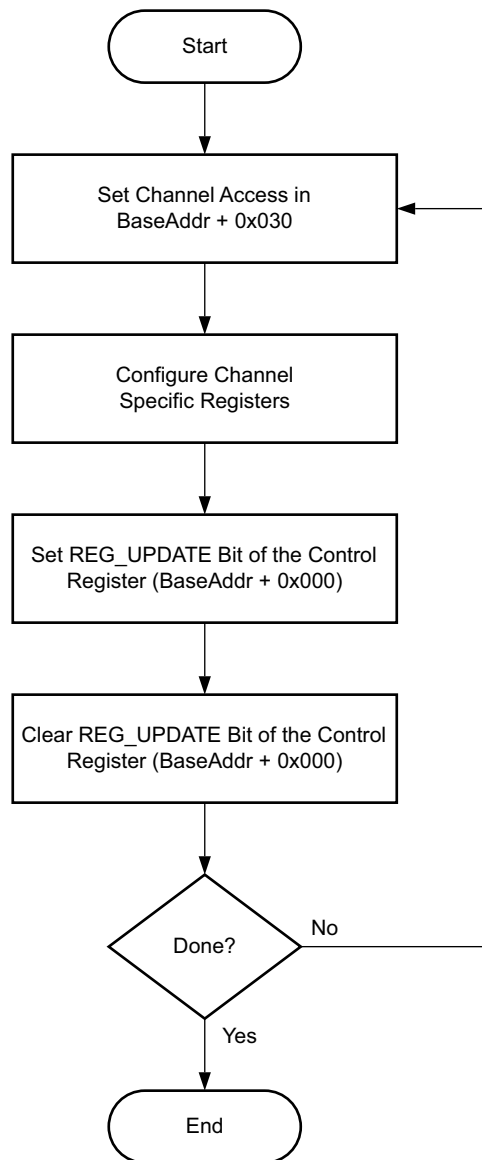

Figure 5: Channel Register Configuration Flow Chart
4. Repeat step 1 through step 3 for each additional channel or register. See Figure 5.
4. Repeat step 1 through step 3 for each additional channel. See Figure 5, page 6.